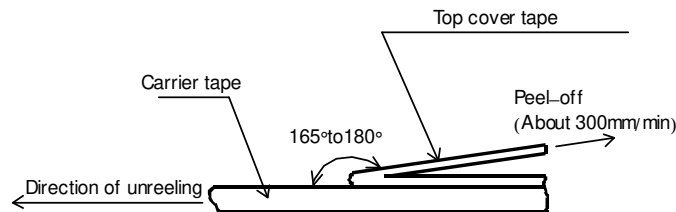
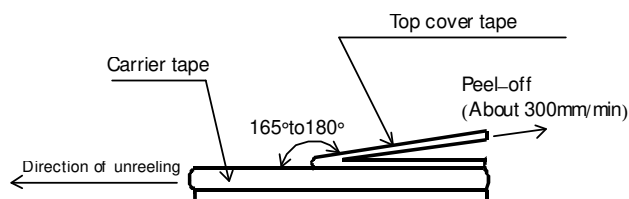
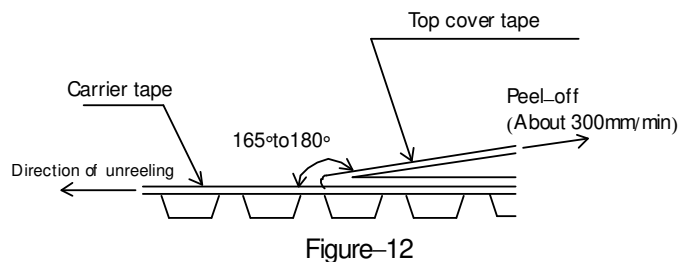

Figure-10
Figure-11
Figure-12
- 5). The peel strength of the top cover tape shall be within 0.1N to 0.5N on the test method as shown in the following RMC1/32, 1/20: Figure-10, RMC1/16S, 1/16, 1/10, 1/8: Figure-11, RMC1/4, 1/2, 1: Figure-12.